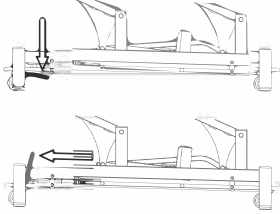

Figure 1 Control rod
- Push the control rod down (it is recommended to use your feet to push) to activate the casters. When the casters are on the ground the table is in a moving status. (Figure 1)
- Push the control rod up (it is recommended to use your feet) and the casters are in the retracted status. When the casters are retracted the table is in a fixed position. (Figure 1)